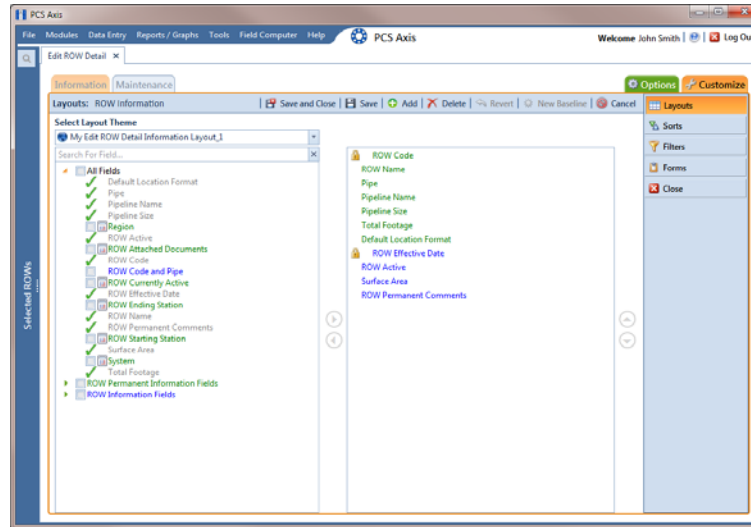

Figure 4-34. Layouts
- 7 Click  **OK** to save changes and return to the *Layouts* page (Figure 4-34).
NOTE: Fields with a lock icon  are required and cannot be removed from the theme, such as  **ROW Code** shown in the previous example (Figure 4-34, page 160).